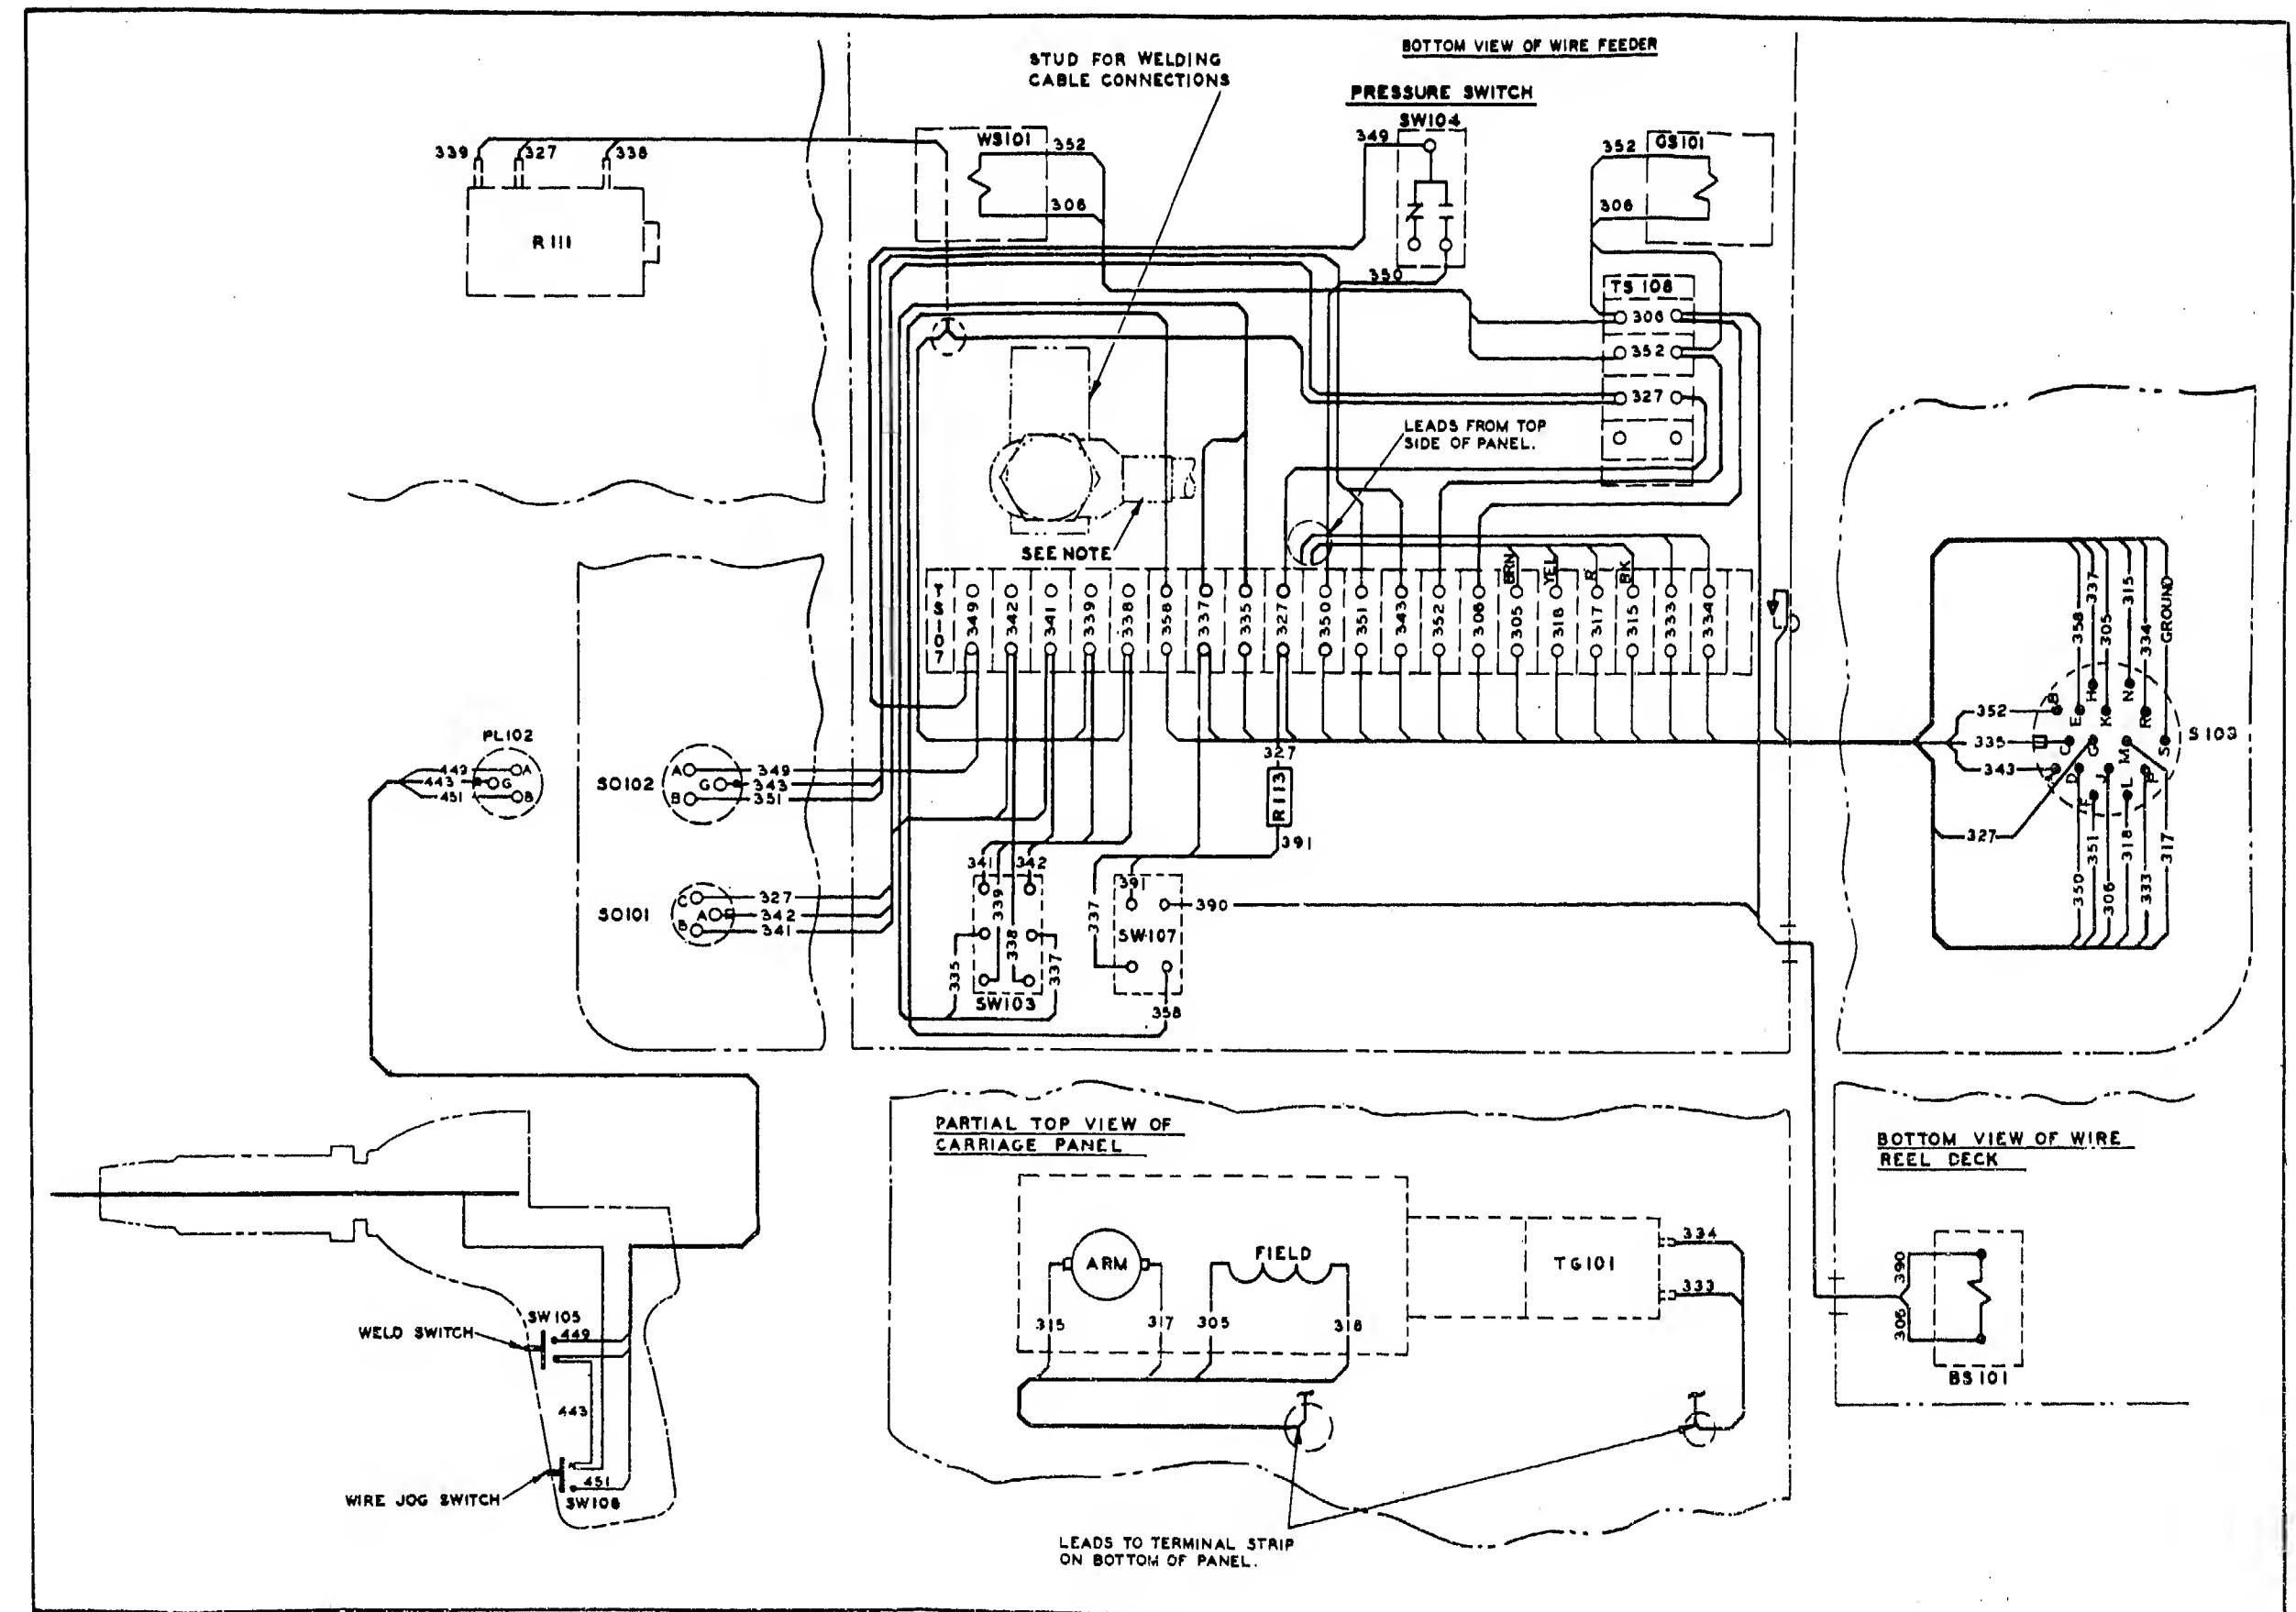

Figure 4. Wiring Diagram – Gun and feeder.
- (4) Refer to figure 4 for the gun and feeder wiring diagram.